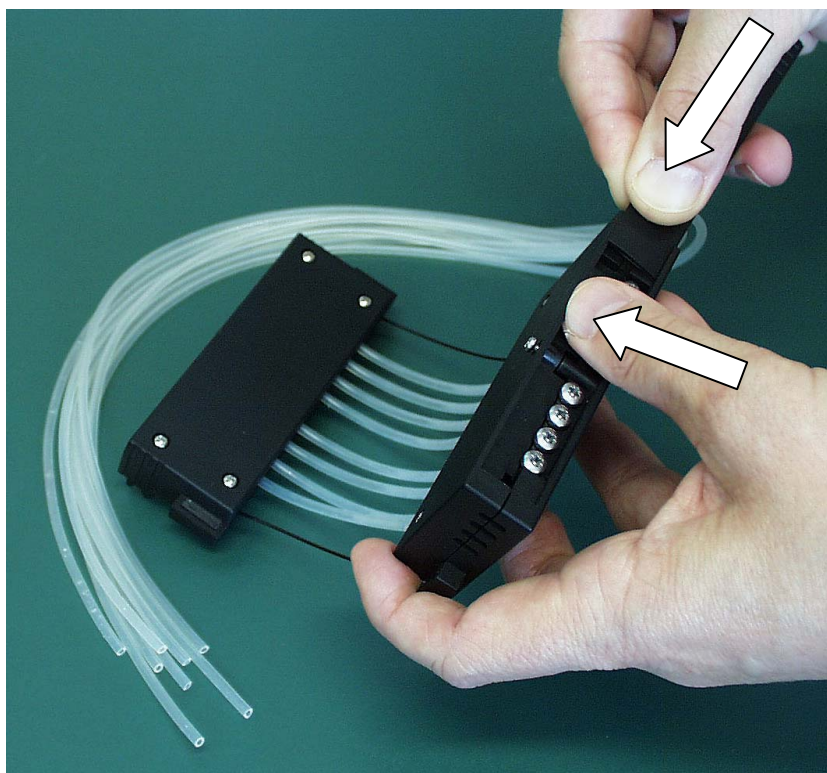

Fig. 7.30 Inserting the plate on the calibration screws
15. Insert the calibration screw cover easier by lifting or bending the upper cover slightly (*Fig. 7.30*).